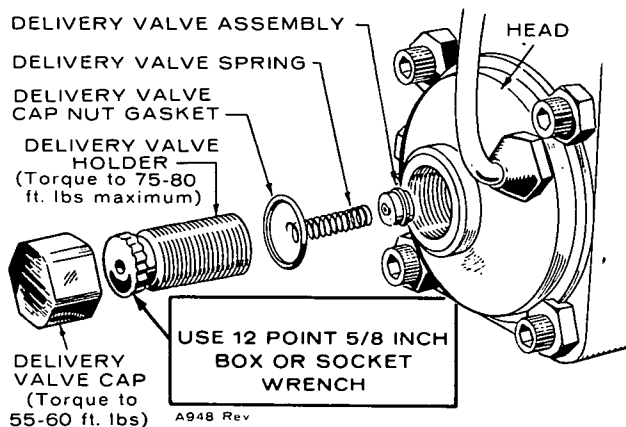

FIGURE 22. DELIVERY VALVE ASSEMBLY
2. Remove the delivery valve cap nut (also delivery valve holder on later models, Figure 22, and lift out the delivery valve spring. Reinstall the delivery valve cap nut and holder.
6. Replace the delivery valve spring (Figure 22). Be sure all components of the delivery valve are installed and properly torqued. The delivery valve holder must be retorqued prior to installation of cap nut.